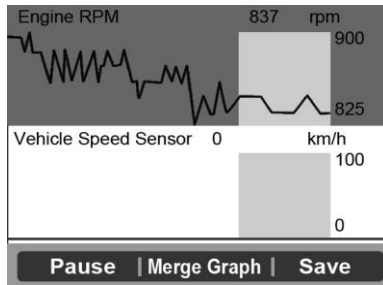

Figure 5.30
- 4) Press the **FUNCTION** button corresponding to **Two Graphic**, the screen will show two graphs as Figure 5.30.